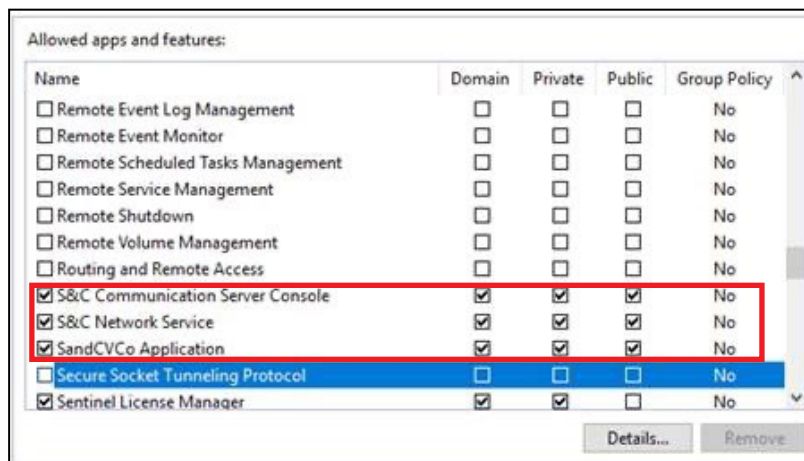
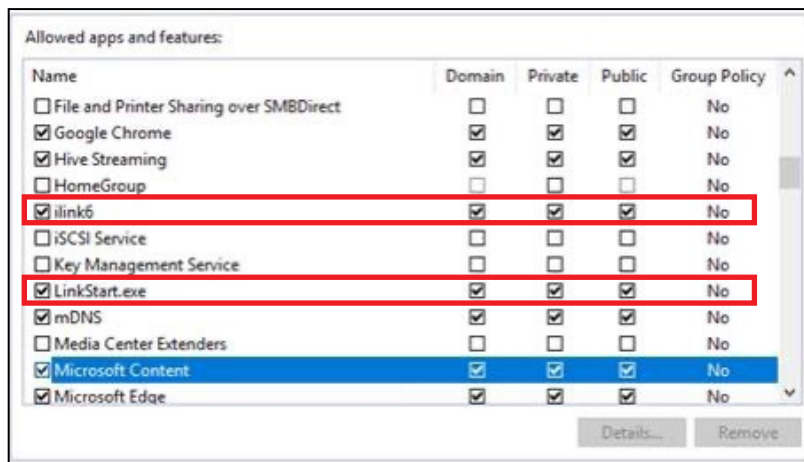

Figure 45. The Allow apps to communicate through Windows Defender Firewall dialog box.
Figure 46. The Allow apps to communicate through Windows Defender Firewall dialog box continued.
STEP 3. Scroll through the “Allowed apps and features:” list and check the applications in the public profile. See Figure 45 on page 115 and Figure 46 on page 115. Table 16 lists the applications that must be allowed and their file locations.